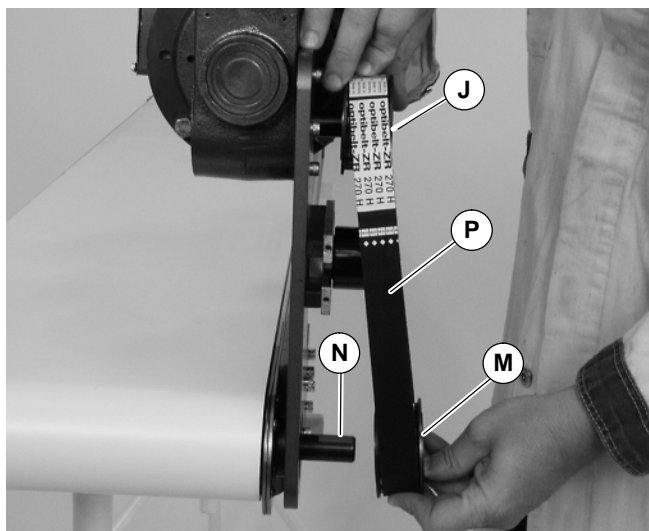

Figure 7
- Install key (N of Figure 7).